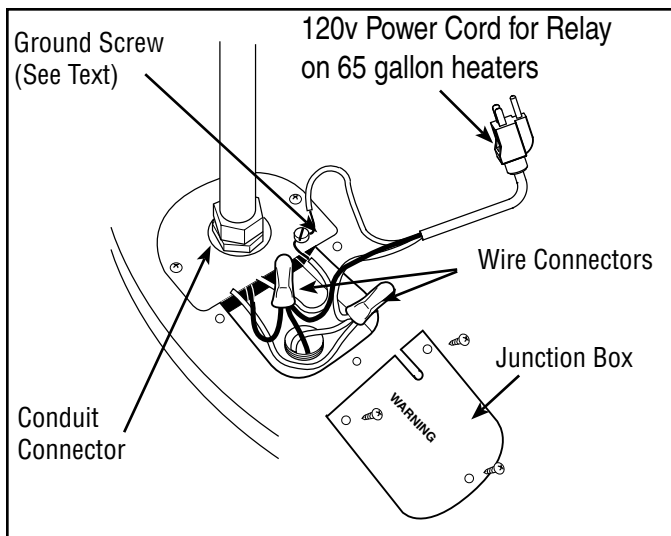

Figure 3 - Water Heater Junction Box.
The water heater is completely wired to the junction box inside jacket at top front of water heater. An opening for 1/2" or 3/4" electrical fitting is provided for field wiring connections. (Refer to Fig. 3)
- B. Non-metallic sheathed cable or metallic conduit or metallic sheathed cable not approved for use as a ground conductor shall include a separate conductor for grounding. It should be attached to the ground terminals of the water heater and the electrical distribution box. (Refer to Fig. 3)